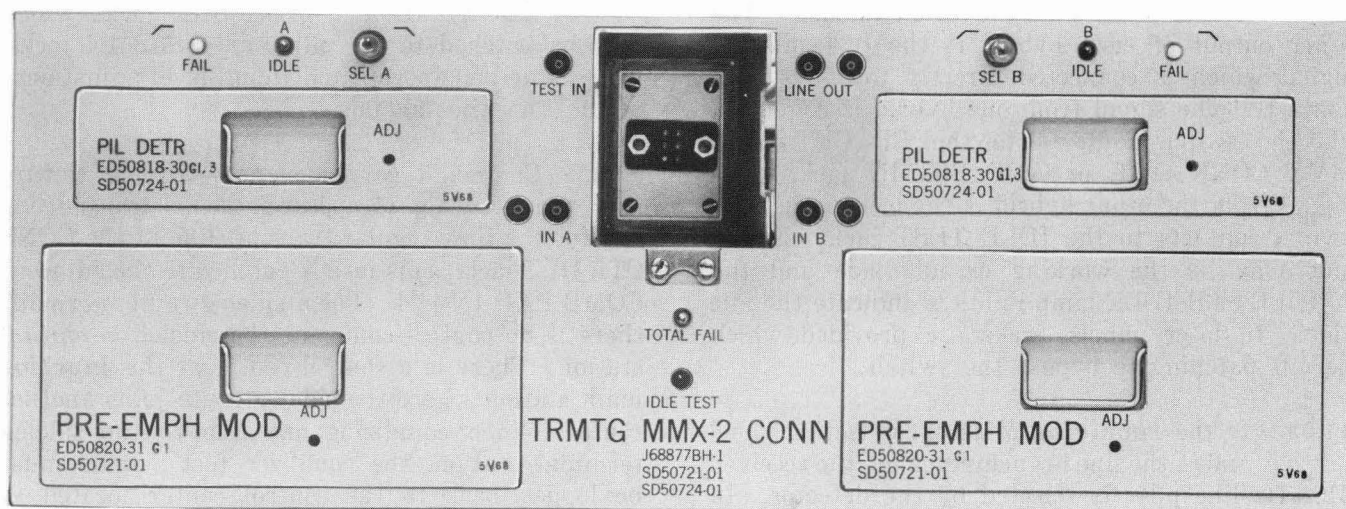

Fig. 21—Transmitting MMX-2 Connecting Panel
10.01 A *transmitting MMX-2 connecting panel* (Fig. 21) is provided where analog multiplex signals are to be added to an L4 line. Optional